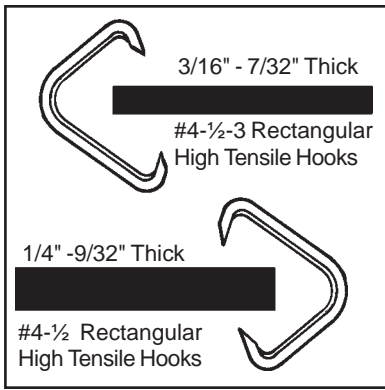

Figure 1
**2. GAUGE BELT FOR PROPER SIZE CLIPPER® HOOK** (Fig. 1) or refer to baler manufacturer specs.